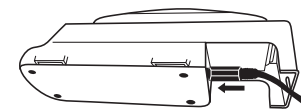

Fig. 1a
- Insert the TR-941N power cord into the cradle (Fig. 1a).